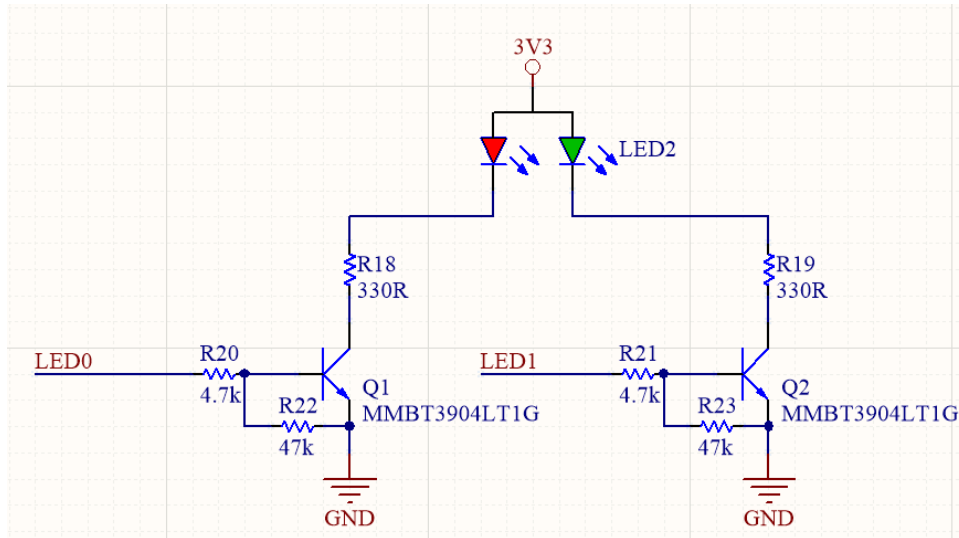

Figure 1.7: LED display
Now, we design an output part which includes a 2-color LED as shown in Figure 1.7. In this part, we use two transistors to connect with the 2-color LED.
- [5] How much do the currents go through each LED in Figure 1.7? What should we do if we want to control a 100mW LED?